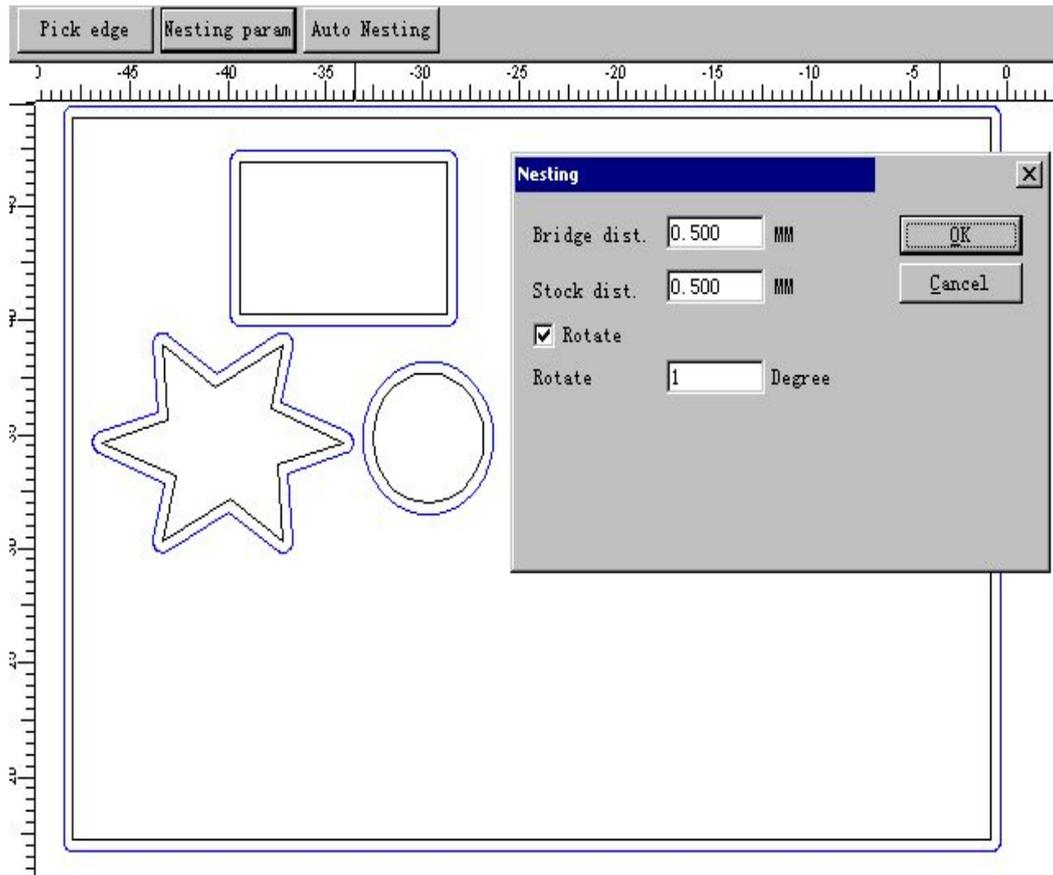

Figure 7-2 Multi part optimization nest dialog box
**Step 2.** Click the button **Nesting parameter** to sets the required parameters. See Figure 7-2
**Step 4.** Click **auto nesting** button to start the operation. The result shows in Figure 7-3. (Figures and Parameters are set in Figure 7-2.)